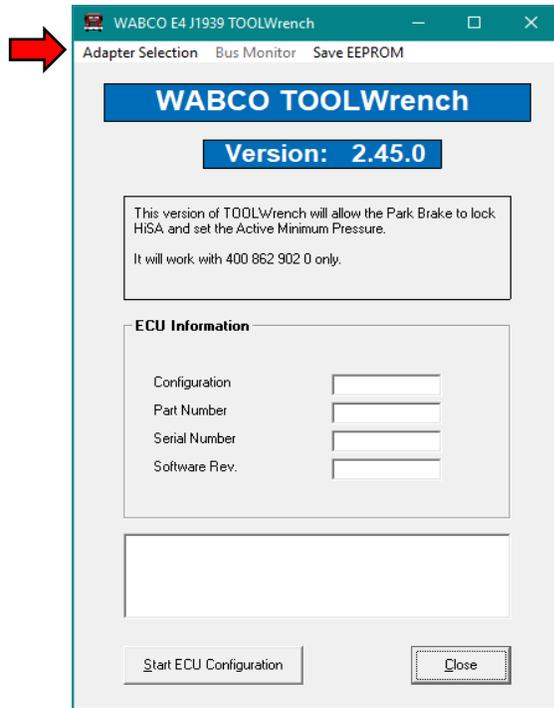

Fig. 6, Toolwrench Adapter Configuration
11. Then click Adapter Selection. See Fig. 6.